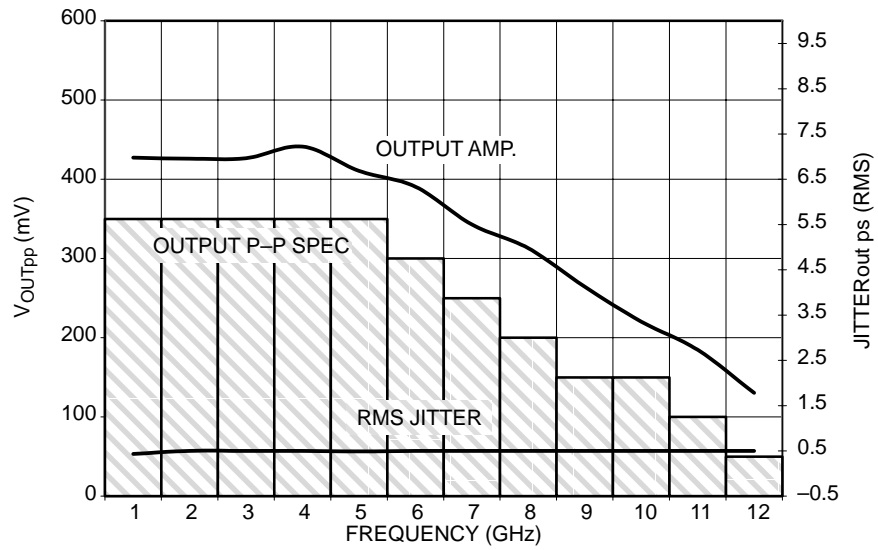

Figure 3. F_{max} /Jitter
19. Measured using a 500 mV source, 50% duty cycle clock source. All loading with $50\ \Omega$ to $V_{CC}-2.0\text{ V}$. For minimum f_{max} value of 10.709 GHz, output amplitude is approximately 200 mV (as shown in Figure 3, where output P-P spec is shown as a minimum/guarantee of around 150 mV).